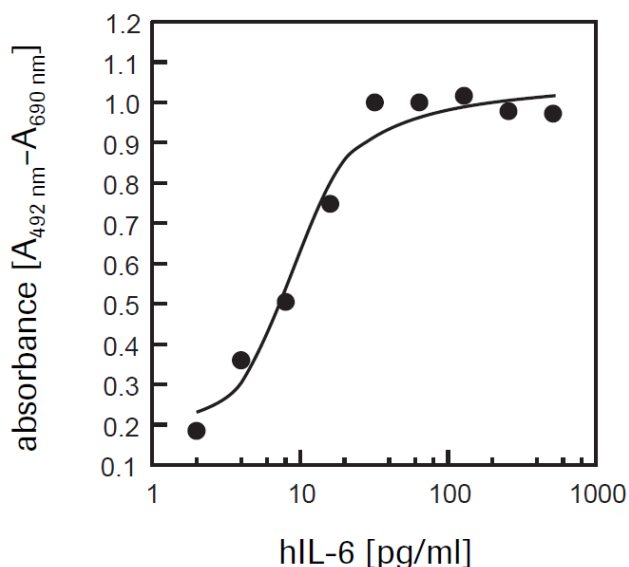

Fig. 1: Proliferation of 7TD1 cells (mouse-mouse hybridoma) in response to recombinant human interleukin-6 (hIL-6) using the described protocol.
- Measurement of cell proliferation and activation in response to growth factors, cytokines (IL-2, IL-6), and nutrients (Fig. 1).
For the determination of human Interleukin-6 (hIL-6) activity on 7TD1 cells, see Figure 1.